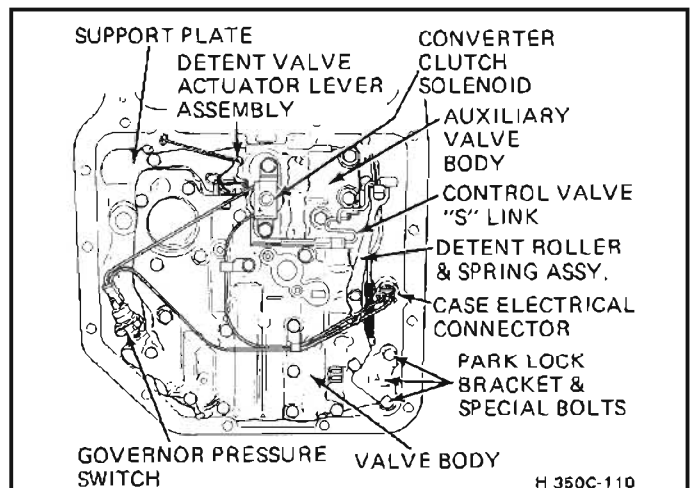

Figure 19 Valve Body and Related Components
11. Remove detent roller and spring assembly from valve body. *See Figure 19.*
21. Remove park lock bracket and special bolts. *See Figure 19.*